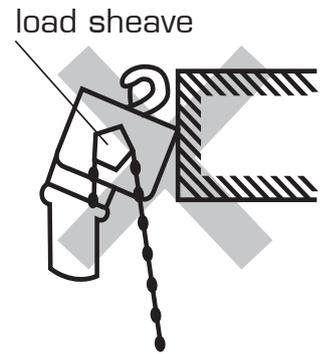

FIG.30
- Do not impede this natural swing. If the abovementioned swing is restricted, a force other than that calculated will be applied to each part, which is very dangerous. (Fig. 30)